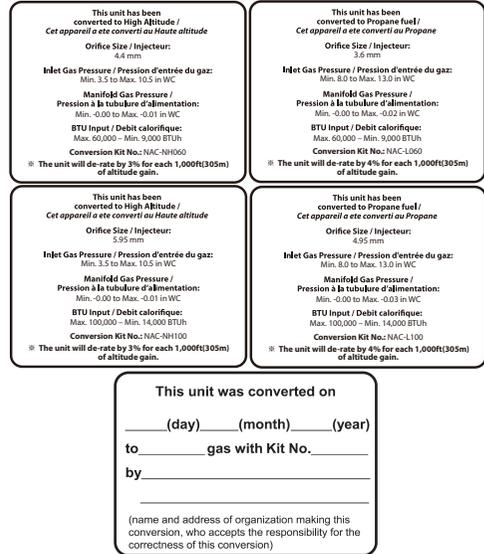

Figure 11. Proper Placement of Gas Conversion Labels
13. Once the CO₂ or offset values have been confirmed, apply the included conversion stickers to show that the appliance has been converted to Propane Gas or High Altitude. Place these labels adjacent to the rating plate as shown in Figure 11.